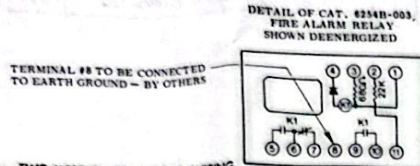

FIGURE 1. TWO-WIRE CLASS A OR B WIRING
- FIGURE 1 SHOWS TYPICAL WIRING FOR 2 WIRE CLASS "B" INSTALLATION TO A FIRE ALARM CONTROL PANEL. FOR CLASS "A" WIRING CONNECT ONE WIRE MARKED IN/OUT AND WIRE MARKED OUT FROM THE LAST DETECTOR ON EACH ZONE TO ITS ASSOCIATED MODULE AT THE CONTROL PANEL. END-OF-LINE RESISTOR IS NOT REQUIRED IN CLASS "A" WIRING. SEE CUSTOMER DRAWING FOR THE PLUG-IN MODULE OR CONTROL PANEL BEING USED.